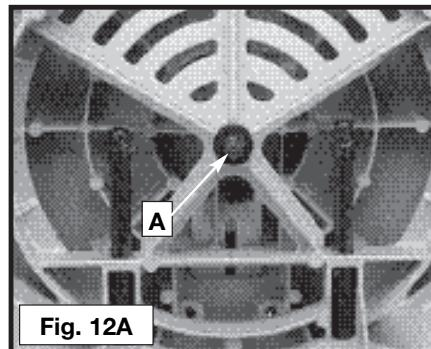

Fig. 12A
To adjust the sliding fit between the movable table and the base, turn the nut (A) Fig. 12A clockwise to increase the sliding fit (opposite to decrease the fit). This adjustment should not be so tight that it restricts the rotating movement of the table, or so loose that it affects the accuracy of the saw.